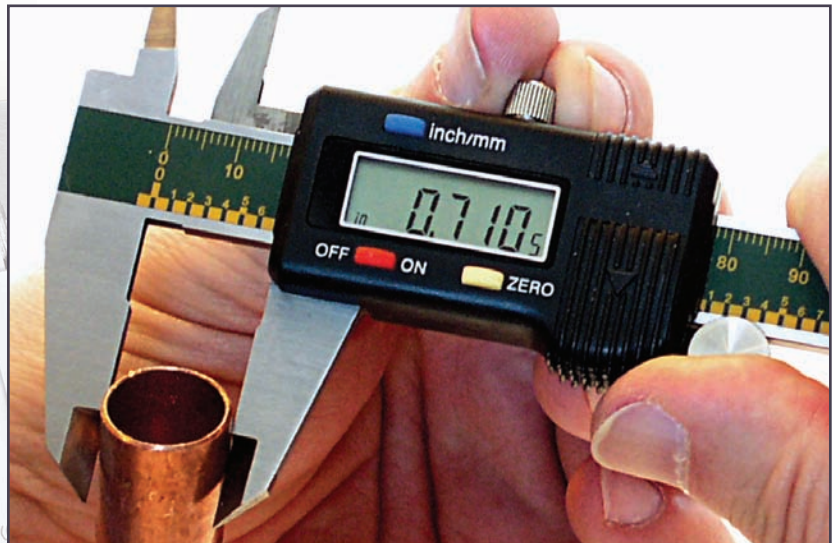

Figure 7: Once you have the component centered and the jaws in place, tighten the lock screw to hold your measurement steady.
4. Once you have the jaws securely in place, lock them with the screw or lever (figure 7).